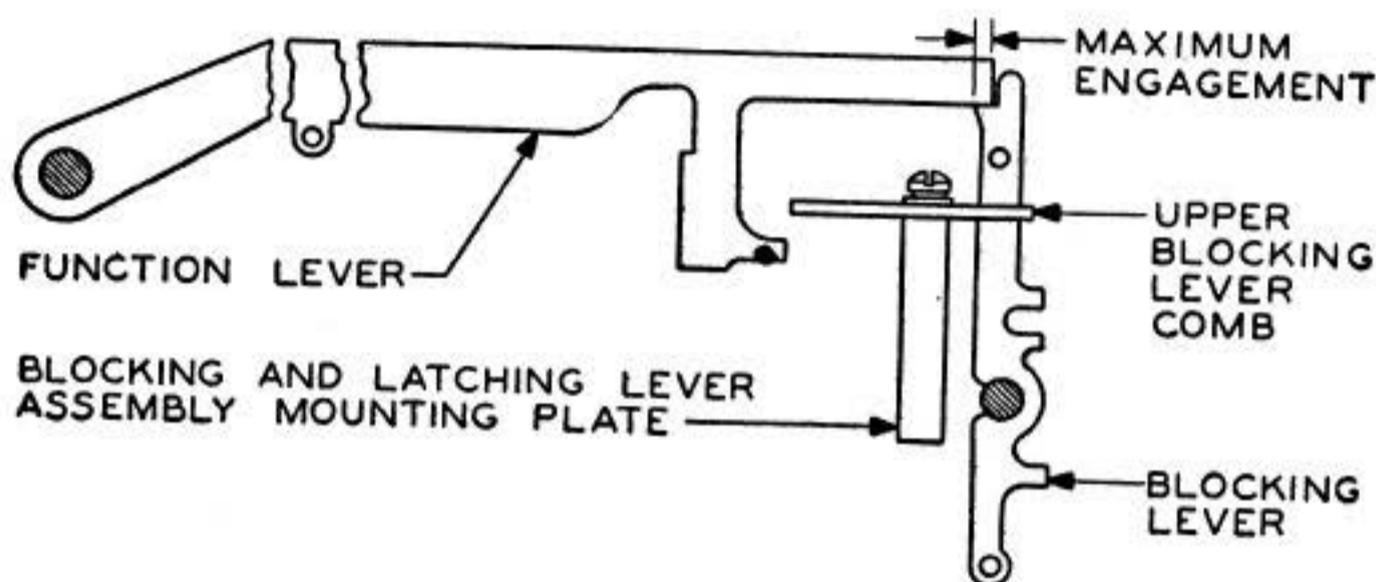

Fig 19
3.27 **Blocking and Latching-Lever Assembly Top Comb:** The top comb should be in its extreme rear position with all screw-hole clearance taken up. **Fig 19**